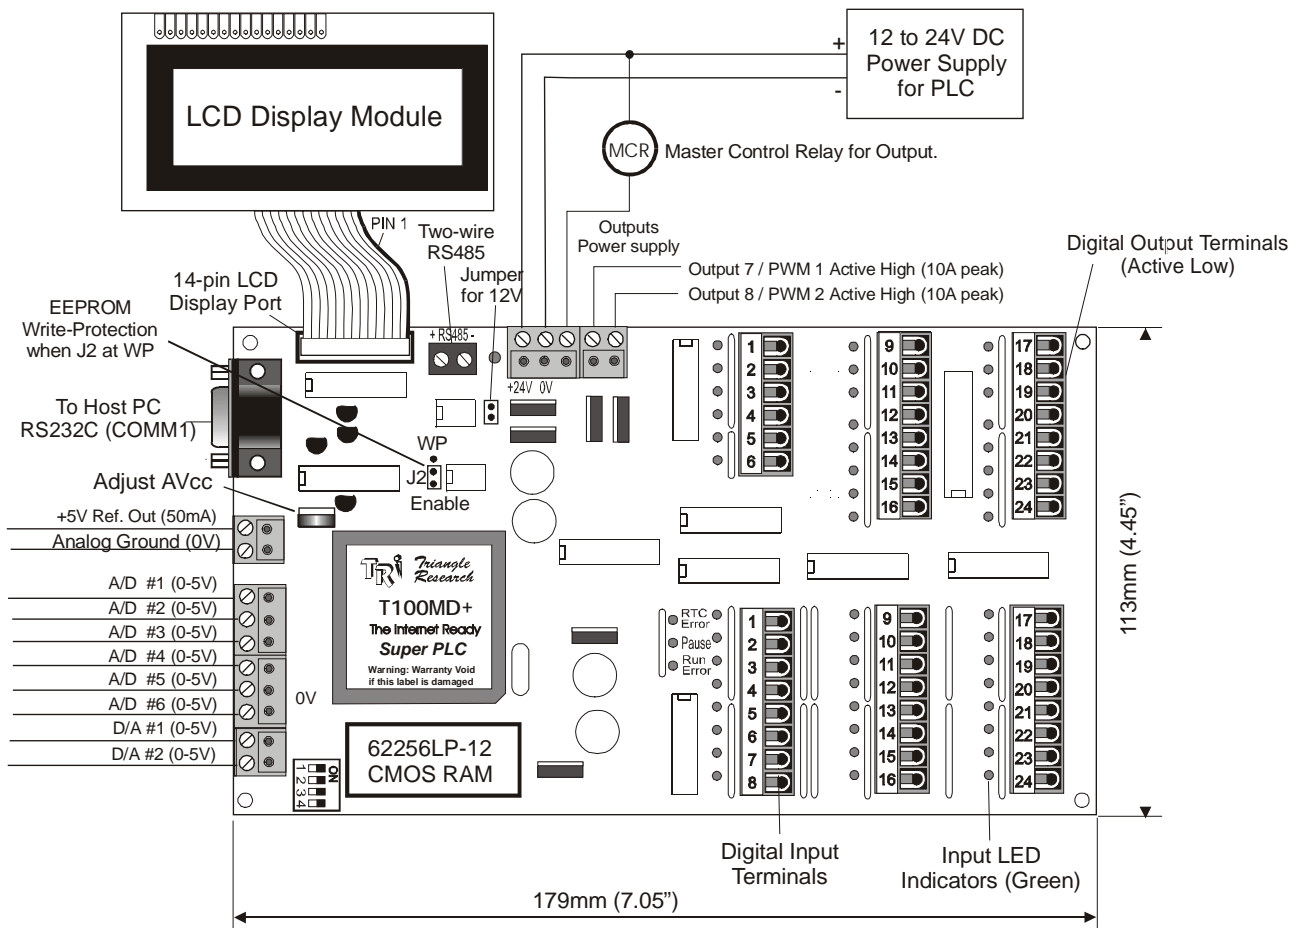

Figure 1 - T100MD-2424+ and a LCD Module
**Analog I/O Ports:** The 8 channels of analog I/Os are available via an 8-way detachable screw terminal connector along the left edge of the T100MD2424+ PLC. The PLC also supplies a +5V analog reference-voltage output and the analog ground on a separate two-way detachable screw terminals as shown in Figure 1.
The T100MD2424+ PLC requires a single regulated, 12 to 24V (+/- 5% ripple) DC power supply for both the CPU and the I/Os (as shown in Figure 1). To use the T100MD2424+ at 12VDC you should place a jumper block on the two-pin header marked "J1-12V" near the power supply terminals. You must remember to remove the jumper when operating the PLC above 18V, otherwise the voltage regulator may overheat.